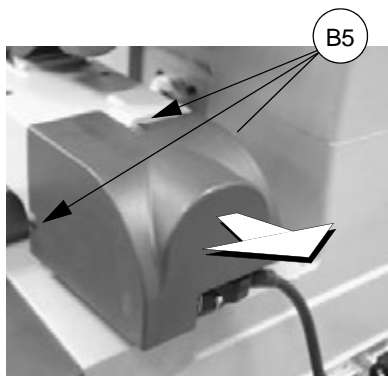

Fig. 48
- 3) loosen the 3 fixing screws (B5) and remove the X axis carriage cover by pulling in the direction shown (fig. 48).